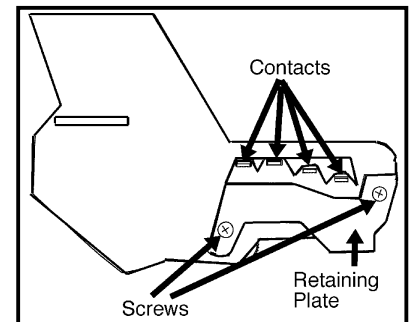

Figure 3
12. Remove two screws from each side of the toner unit (a total of four screws Figs. 3 & 4).